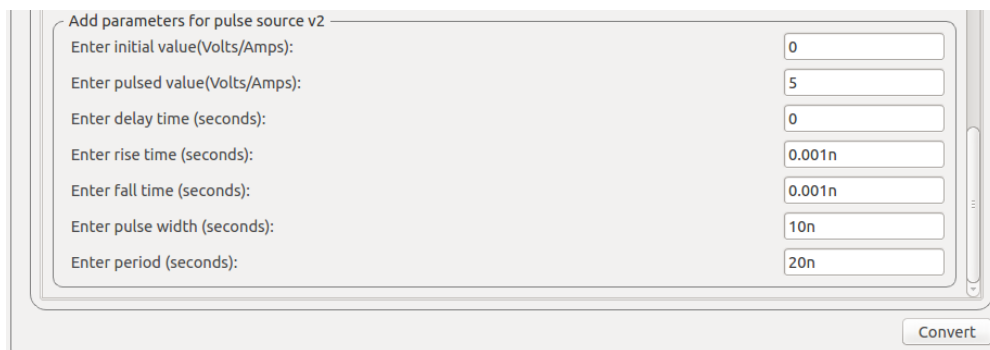

Figure 9.14: Value of Source v2
6. Now click on **Source Details** and enter the values for Source v1 and source v2 as shown in figure Fig. 9.13 and Fig. 9.14